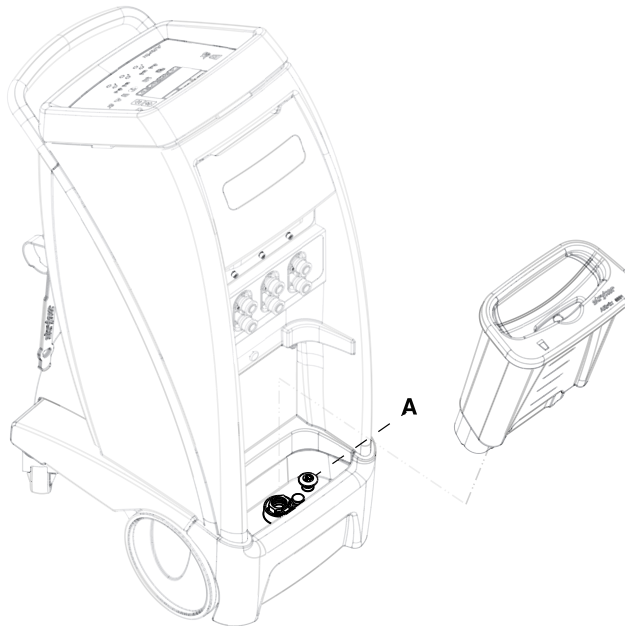

Figure 1-20: Drain plug
2. Remove the reservoir and pull up on the controller drain plug (A) to open the drain (Figure 1-20 on page 1-35).